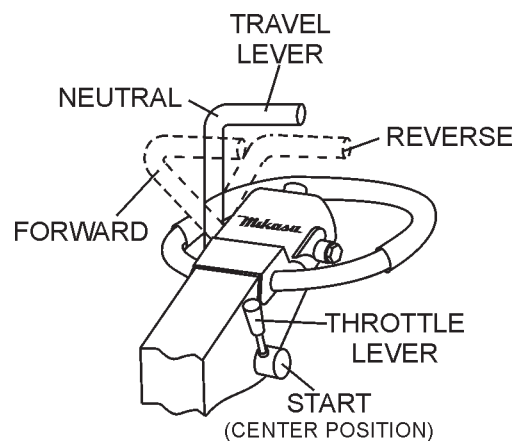

Figure 15. Throttle Lever (Start Position)
2. Move the throttle lever to the **START** position (Figure 15).
1. Return the throttle lever to the **START** position (Figure 15). Allow the machine to cool down for 2 to 3 minutes.